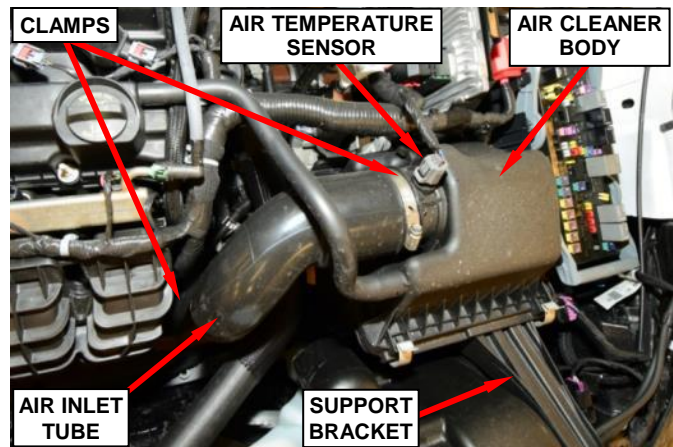

Figure 66 – Air Cleaner
10. Loosen the air inlet tube clamps at the air cleaner body and throttle body (Figure 66).
11. Remove and save the air inlet tube (Figure 66).
12. Disconnect the air inlet tube temperature sensor electrical connector (Figure 66).